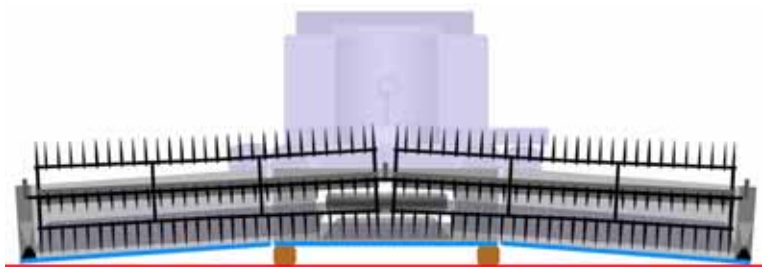

Fig. 8A Block Test – Header Frown
- b. Raise header and place 150mm (6") blocks under cutterbar just inboard of hinge point. (See Fig 8A).
- Frown Flex Range needs to be checked with header in frown position.(see Fig.8A) Pin (1) must reach end of travel slot (2) (range 0-3mm (1/8") gap).
- Smile Flex Range needs to be checked with the header in smile position. Pin (1) must reach end of travel slot (2) (range 0-3mm (0-1/8") gap).